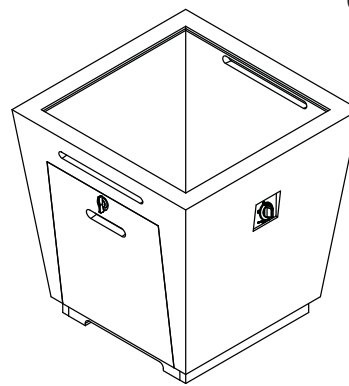

Fig. 21-1 Place base
1. **CAREFULLY** place the base in an appropriate location (see Fig. 21-1, and refer back to the LOCATION section if needed).